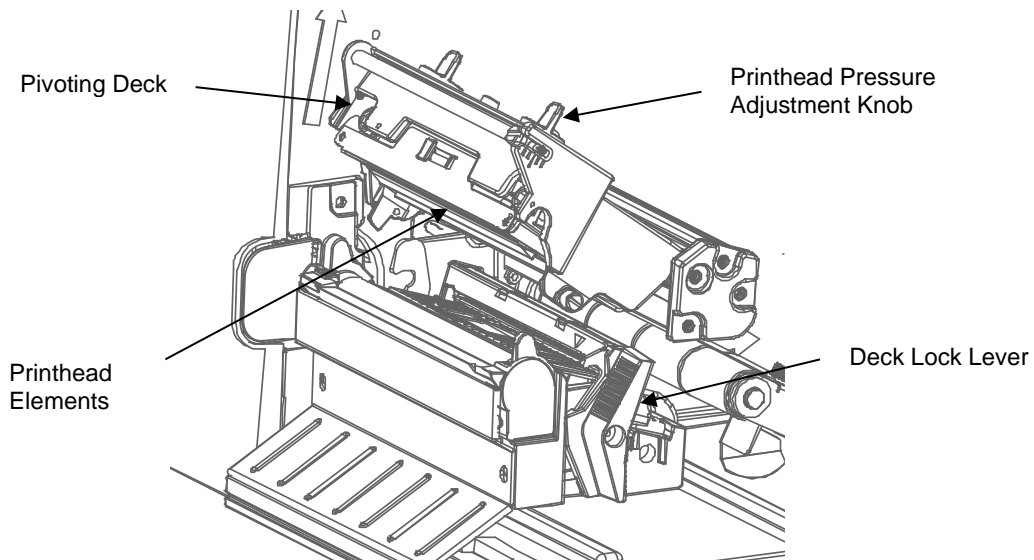

Figure 15 Opening the Pivoting Deck
2. Refer to *Figure 15* to locate the debug port at the rear of the printer.